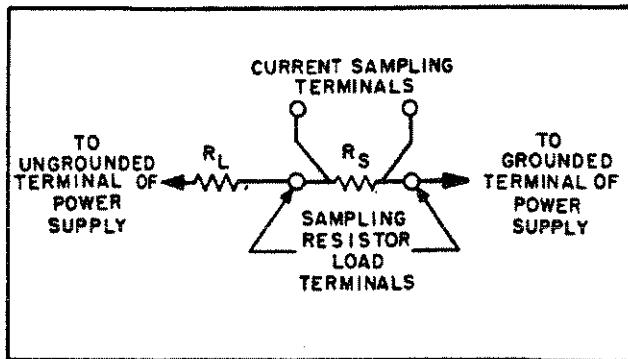

Figure 5-9. Current Sampling Resistor Connections
**5-44** For all output current measurements the current sampling resistor must be treated as a four terminal device. In the manner of a meter shunt, the load current is fed to the extremes of the wire leading to the resistor while the sampling terminals are located as close as possible to the resistance portion itself (see Figure 5-9). Generally, any current sampling resistor should be of the low noise, low temperature coefficient (less than 20ppm/ $^{\circ}$ C) type and should be used at no more than 10% of its rated power so that its temperature rise will be minimized.